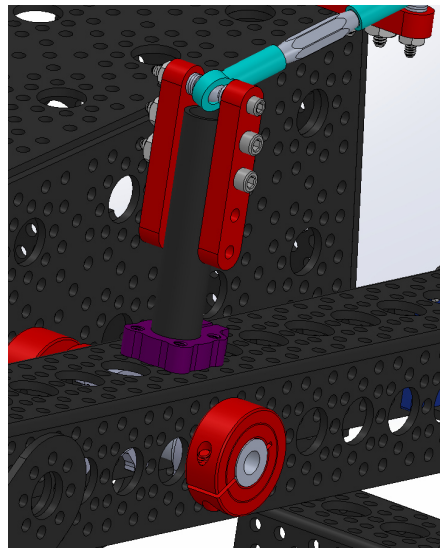

Figure 9: Attaching the differential pivot
2. **Attaching the differential pivot arms:** Attach the the bottom sections of the differential pivot to the 0.5 inch clamping hubs on each of the Rocker-Bogie attachments. Once these are all in place, tighten down each of the screws on all of the clamping hubs as shown in Figure 9.